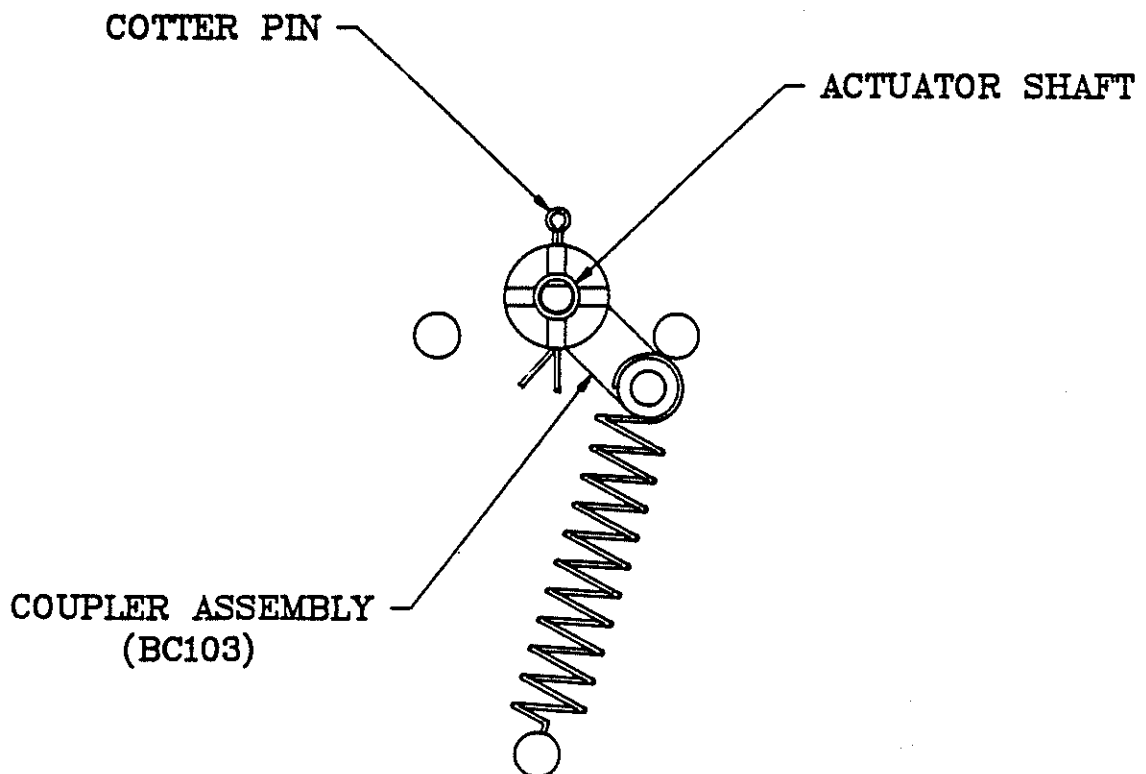

FIGURE 4.1
- 1) The ON/OFF operation of the pump handle should allow the coupler assembly to travel fully between the stops on the side of the computer. See Figure 4-1. This operation must also rotate the actuator shaft a full 90 degrees.